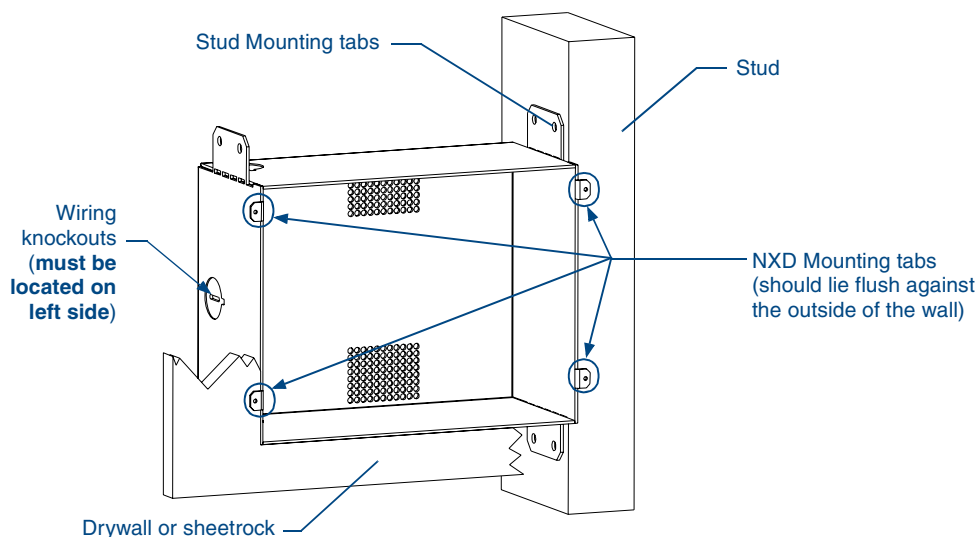

FIG. 11 CB-TP7 conduit box components
The CB-TP7 is an optional metallic box that is secured onto a stud/beam in a **pre-wall** setting (*where no walls are present*). Installation procedures and configurations can vary depending on the installation environment. This section describes the installation procedures for the most common installation scenario. The most important thing to remember when mounting this conduit box is that the NXD-700Vi Mounting Tabs must lie flush against the outside of the sheetrock (FIG. 11).
2. Fasten the CB-TP7 conduit box to the stud through the holes on the right Stud Mounting tabs (FIG. 11), using either nails or screws.
- Remove the wiring knockouts from the left side of the conduit box (CB-TP7) (FIG. 11) to accommodate the cables being threaded through to the NXD touch panel.